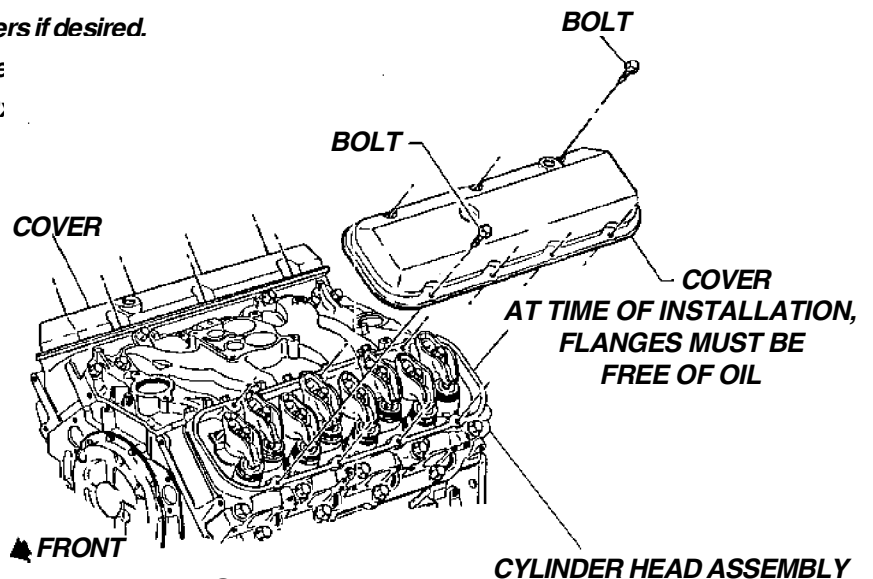

FIGURE 8
6. Torque the bolts to 70 in-lbs. See Figure 8.